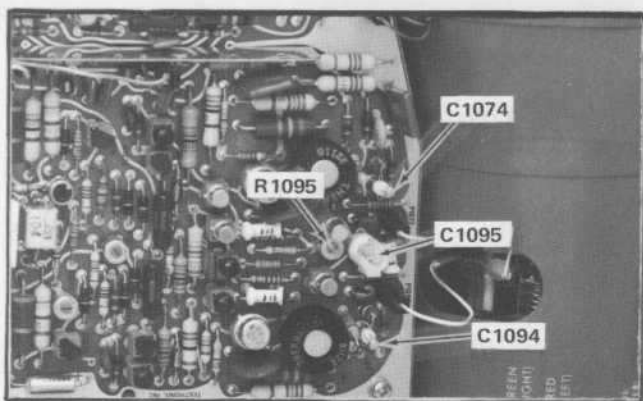

Fig. 5-19. Location of Horizontal Amplifier high-speed linearity adjustments (B Sweep circuit board).
j. ADJUST—R1095 (see Fig. 5-19) for 1 cycle in 5 divisions near the center of the CRT.
m. ADJUST—C1095 (see Fig. 5-19) for 1 cycle in 2 divisions over the center 8 divisions.